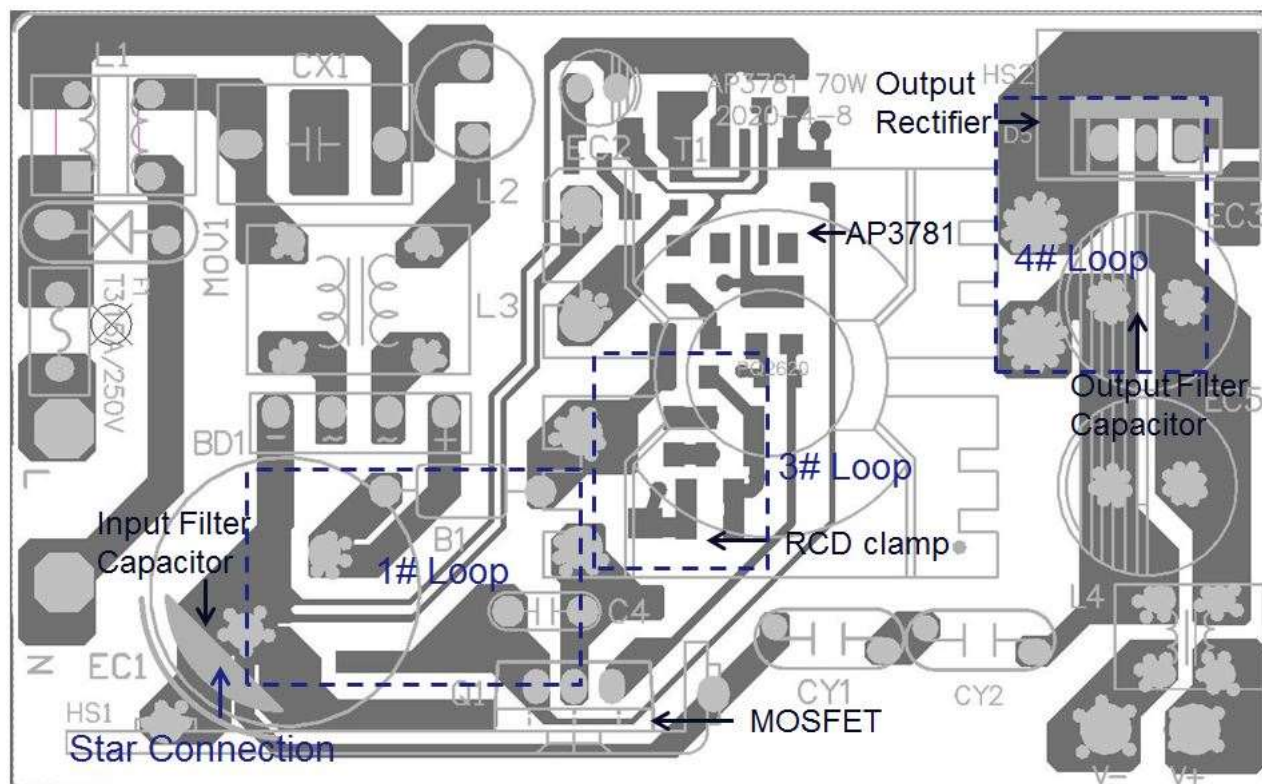

Figure6: High Current Loop & Star Connection
As shown in Figure 6, there are four major high frequency current loops:
2. A so-called "Star" connection is highly recommended for primary GND. As shown in Figure 6, the ground of MOSFET, auxiliary winding, Y-cap and control IC are separated and finally connected together on bulk capacitor ground. The width of these grounds should be kept as large as possible. The primary side of Y-cap could also be connected to the high voltage pin